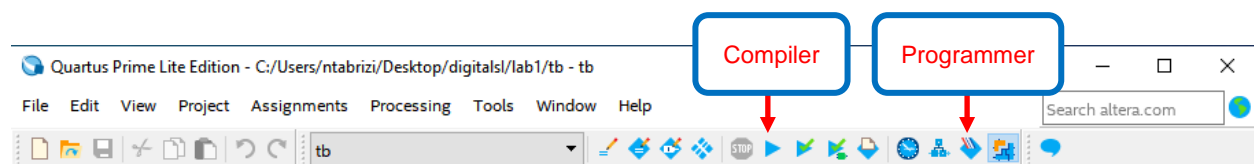

Figure 1. Quartus toolbar
- Click on the triangle on the toolbar to compile tb.vhd. See Figure 1. There is no syntax error in this file! In general, if you get syntax error messages (in red), double-click on the *first* one; the problematic line of code will be highlighted. See if you can resolve the error; if not, ask your lab instructor for help.
- Once you get the successful compilation message, connect the FPGA board to your laptop if it is disconnected. Click on the “programmer” button on the toolbar. See Figure 1. The “programmer” window appears. **Now your physical circuit is only one click away!** Click on the “Start” button to map your code into the FPGA chip. Test your circuit: *The slide switches should be able to turn ON/OFF the LEDs! Show your functional circuit to the lab instructor.*